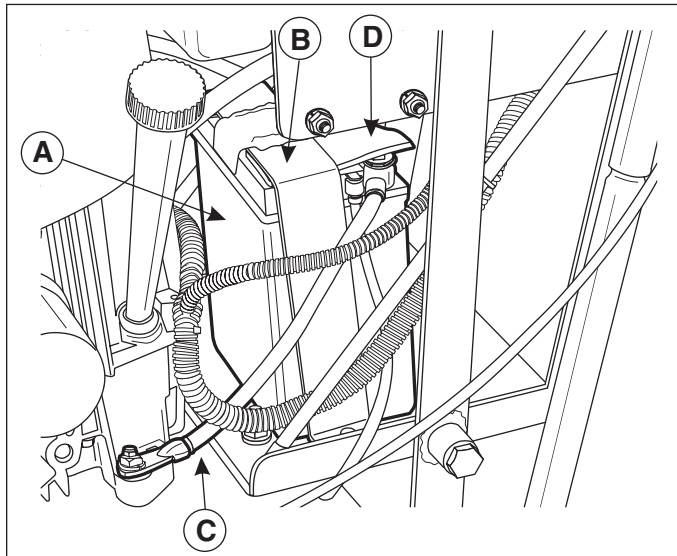

Figure 13a. Battery
1. Disconnect the cables from the battery, negative cable first (C, Figure 13a).
2. Remove the battery hold-down (B), rubber protective sheet (D) and battery (A).
5. Reinstall the battery in the battery compartment, place rubber sheet (D) on top of battery and secure with the battery hold-down (B).
6. Reattach the battery cables, positive cable first (C).